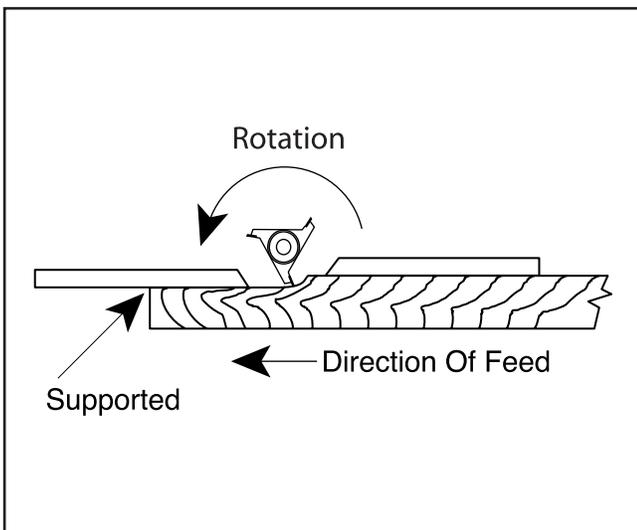

Figure 35. Fence adjusted to support workpiece.
- Once the shaper is turned off and the cutter has come to a complete stop, adjust the outfeed fence to support the new profiled edge. **See Figure 35.**